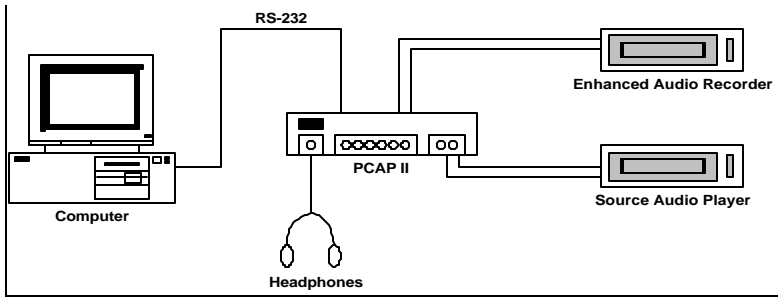

Figure 3-1 PCAP II Connection Diagram
1. Connect the LEFT and RIGHT channel line-level audio outputs (AUDIO OUT jacks) of your Source Audio Player to the LEFT IN and RIGHT IN RCA jacks on the PCAP II external processor rear panel as shown in Figure 3-1. Note that the RIGHT IN signal is only used in stereo configuration and with the 2CH Adaptive Filter in mono configuration.
2. If you wish to record the enhanced audio, connect the line-level audio inputs (AUDIO IN jacks) of your Enhanced Audio Recorder to the LEFT OUT and RIGHT OUT RCA jacks on the PCAP II external processor rear panel as shown in Figure 3-1.
3. Connect your stereo headphones to the PHONES jack on the PCAP II external processor front panel as shown in Figure 3-1. Turn the phones VOLUME control to MIN. It is also recommended that headphones be connected to the Enhanced Audio Recorder's headphone jack to confirm that the output signal is being properly recorded.